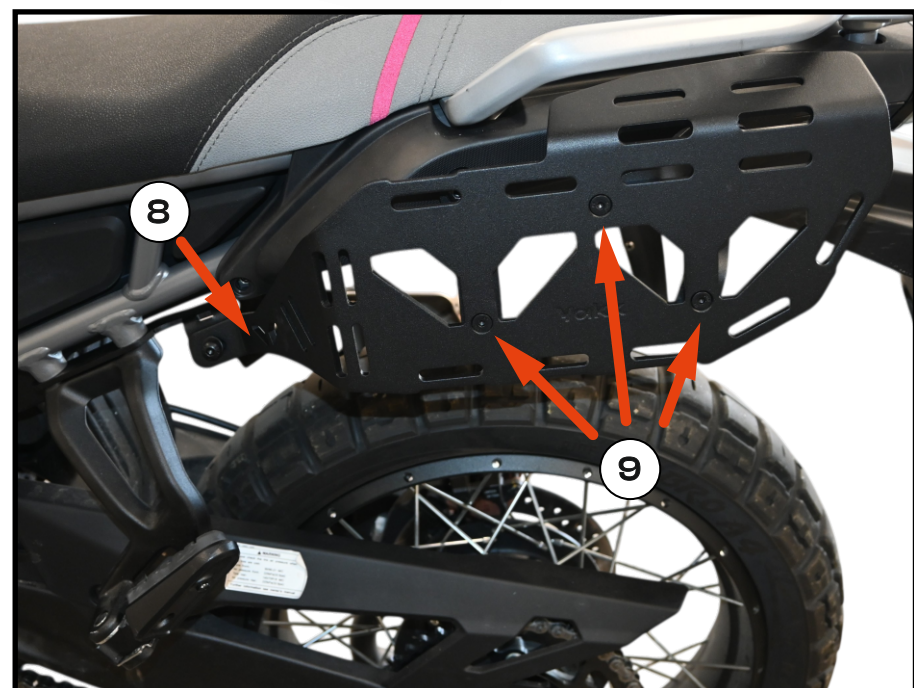
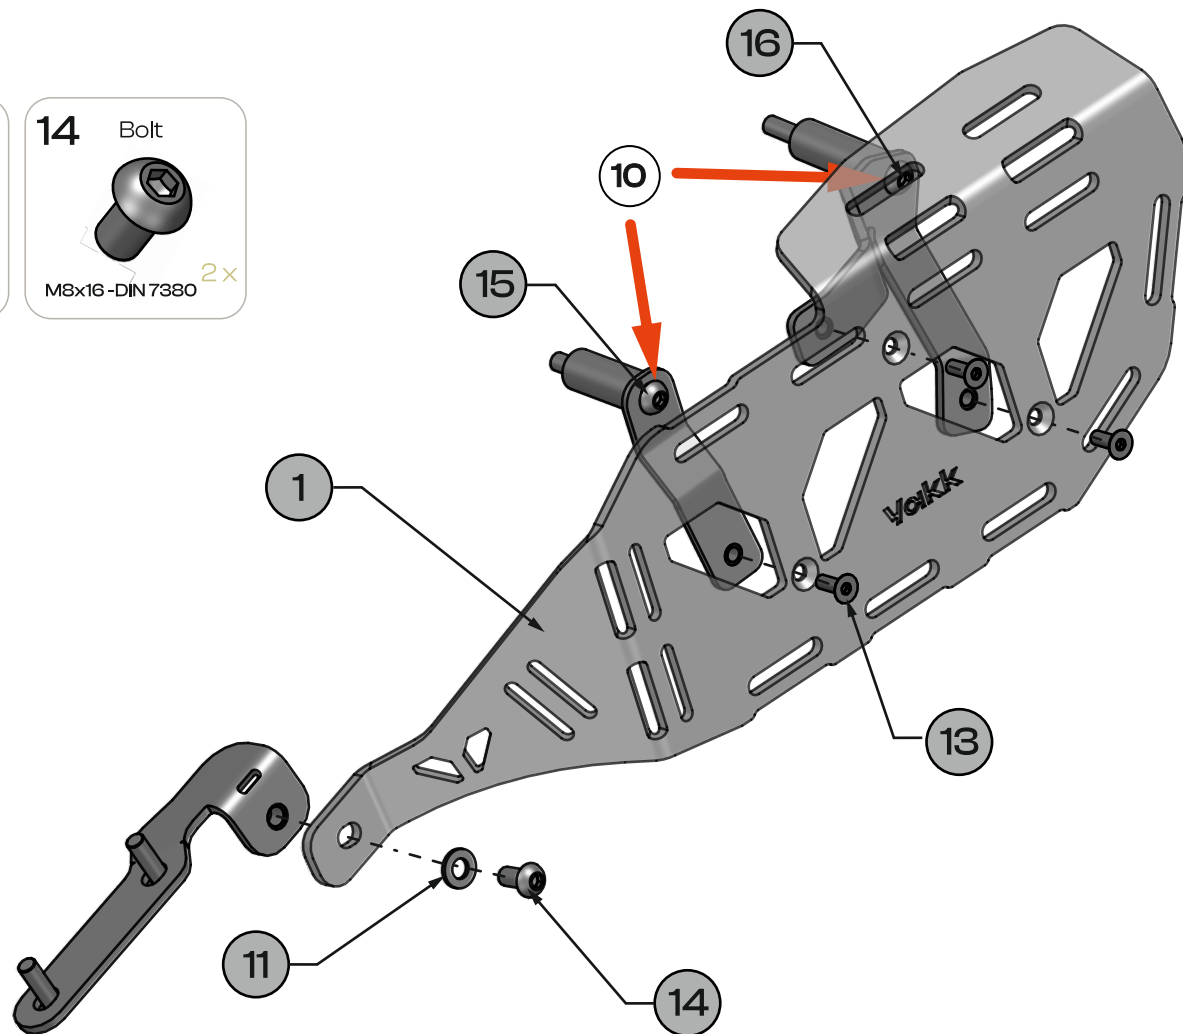

Fig. 7
Fig. 8
8. Loosely install and fasten left luggage rack **[1]** at the front using washers **[11]**, bolts **[14]**. **[Fig. 7], [Fig. 8]**
9. Loosely install and fasten left luggage rack **[1]** at the rear using bolts **[13]**. **[Fig. 7], [Fig. 8]**
10. First tighten the bolts to the specified torque, then tighten the remaining bolts securing the soft luggage rack. **[Fig. 8]**